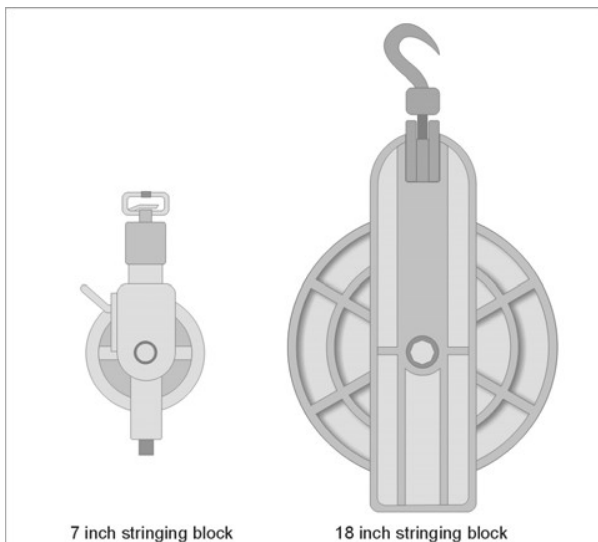

Figure 5. Stringing Blocks
- 10° and 20 cm blocks are utilized for straight line poles (Figure 5).
As the cable in this situation is tensioned, the cable will naturally tend to pull inside of the corner pole. A horizontally mounted stringing block (per Figure 5) will keep separation to a minimum.